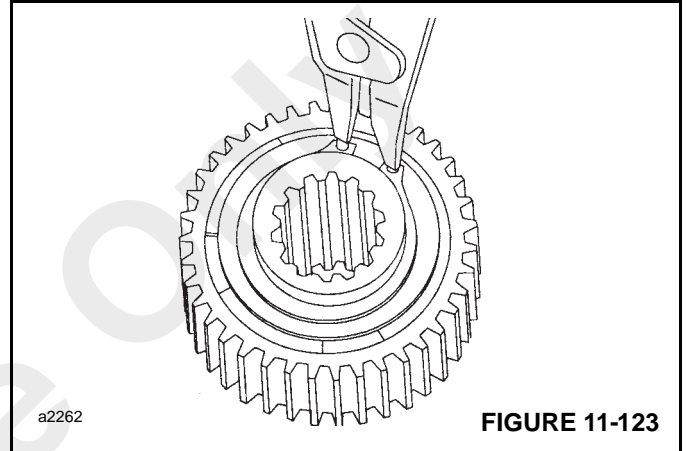

FIGURE 11-123
1. Remove the snap ring and sprag bushing retainer from one end only (Figure 11-123).